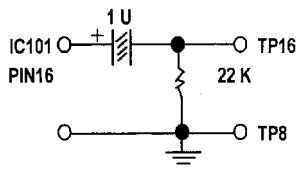

FIG.1
1. Direct connect to the IF sweeper output side and 1 UF and 22 Kohm connect to the sweeper input side. Same as FIG. 1.